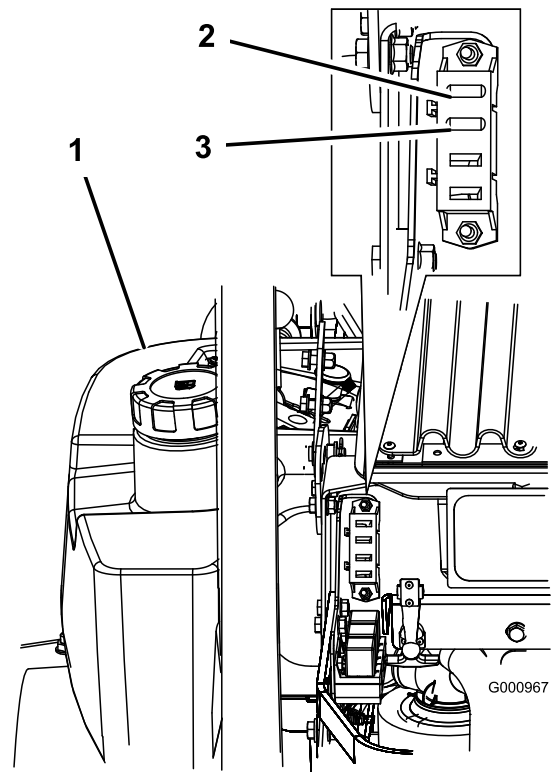

Figure 51
1. Unlatch the engine hood and raise the engine hood to gain access to fuse holder (Figure 51).
3. Install a new fuse (Figure 51).